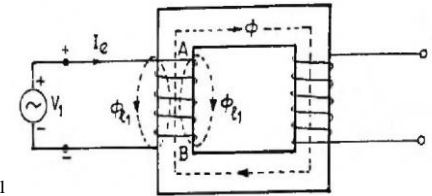

Fig. 8 Actual Transformer under load
- As shown in Fig. 8, the magnetic potential difference between point 'A' and 'B' establishes: (i) the mutual flux  $\phi$  linking both the cores and (ii) the primary leakage flux  $\phi_{l1}$  which links only the primary winding.